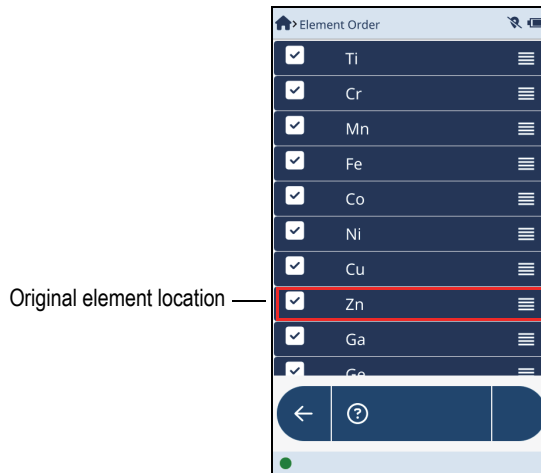

Figure 2-44 Element in original position
2. Tap and hold an element until it is highlighted (see Figure 2-44 on page 58).